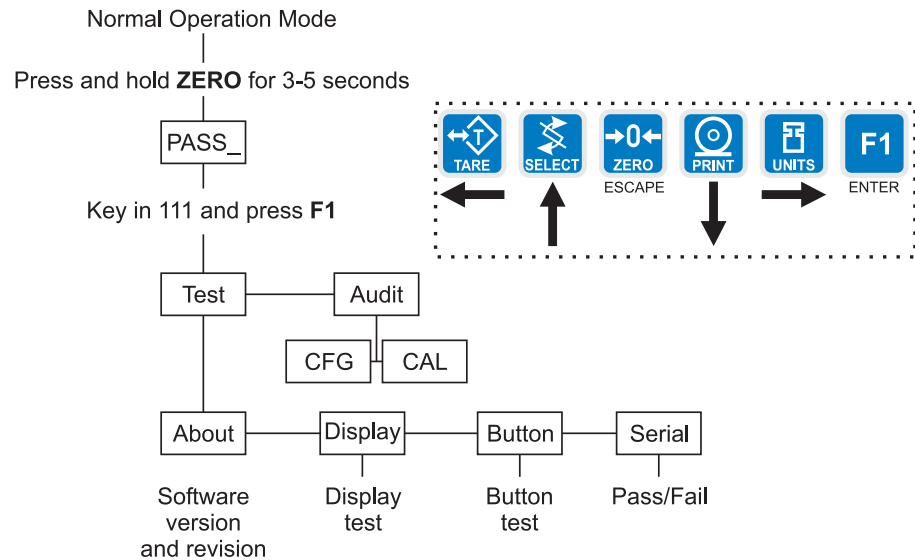

Figure 4
2. Use the numeric entry procedure to scroll in the User menu password = 111. See note at left. Figure 4 shows a flowchart of the User menu items. Use the keys shown in the dotted box in Figure 4 to navigate through the menu and choose the items you want.